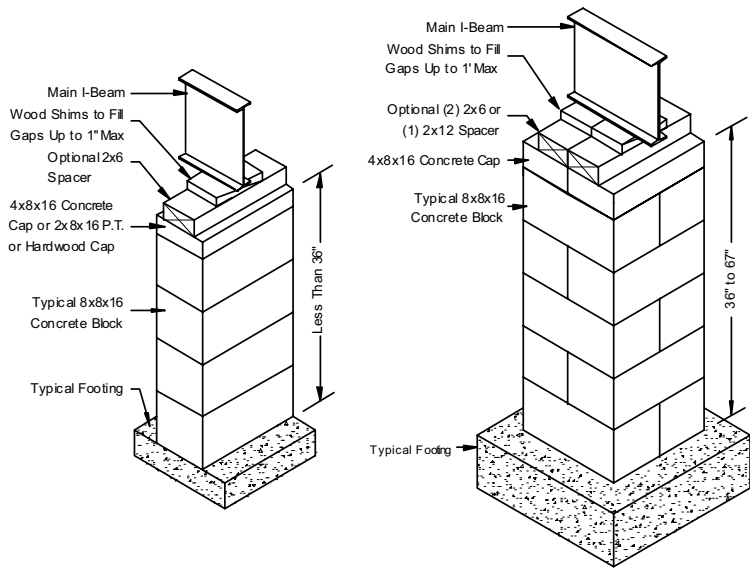

Figure 18. Frame pier construction
- 2. Stack blocks.** Stack concrete blocks with their hollow cells aligned vertically. When piers are constructed of blocks stacked side-by-side, orient each layer at right angles to the previous one (**Figure 18**) and plan blocks so that split caps will be perpendicular to the blocks they rest on and to the I-beam.